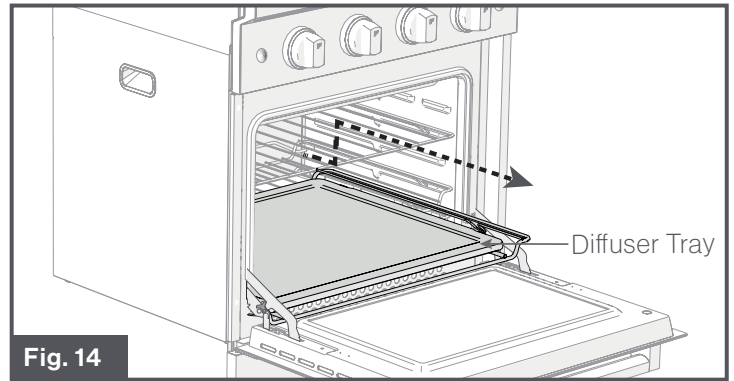

Fig. 14
- To insert the **diffuser tray**, position it just above the lowest position. The **diffuser tray** should slide towards the back and will drop down once fully pushed in. (Fig. 14)